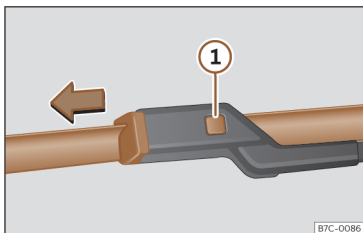

Fig. 206 Changing the windscreen wiper blades
- Press and hold release button >>> **Fig. 206** ① and pull gently on the wiper blade in the direction of the arrow.